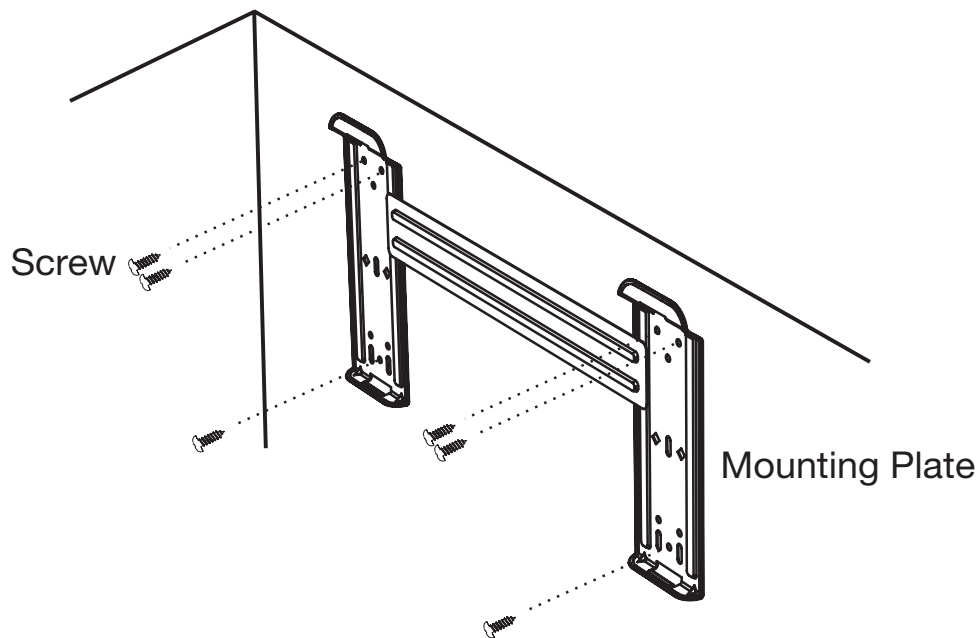

Figure 2.1
3. Mount the bracket on the wall using the 6 screws provided. Be sure that you are screwing directly into the two studs found earlier. If your wall does not have a stud, you will need to use wall anchors (Mollies) to secure the mounting bracket. (see Figure 2.1)